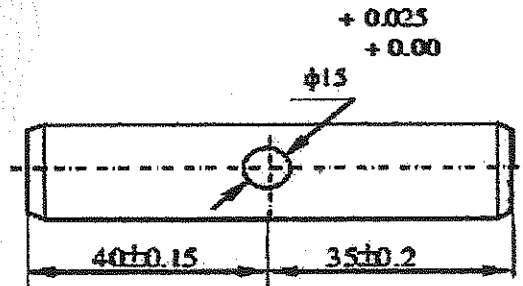

Fig. 2
11. (a) Identify the functional and manufacturing datum for the component as shown in Figure 2 and change the datum for ease of manufacturing.